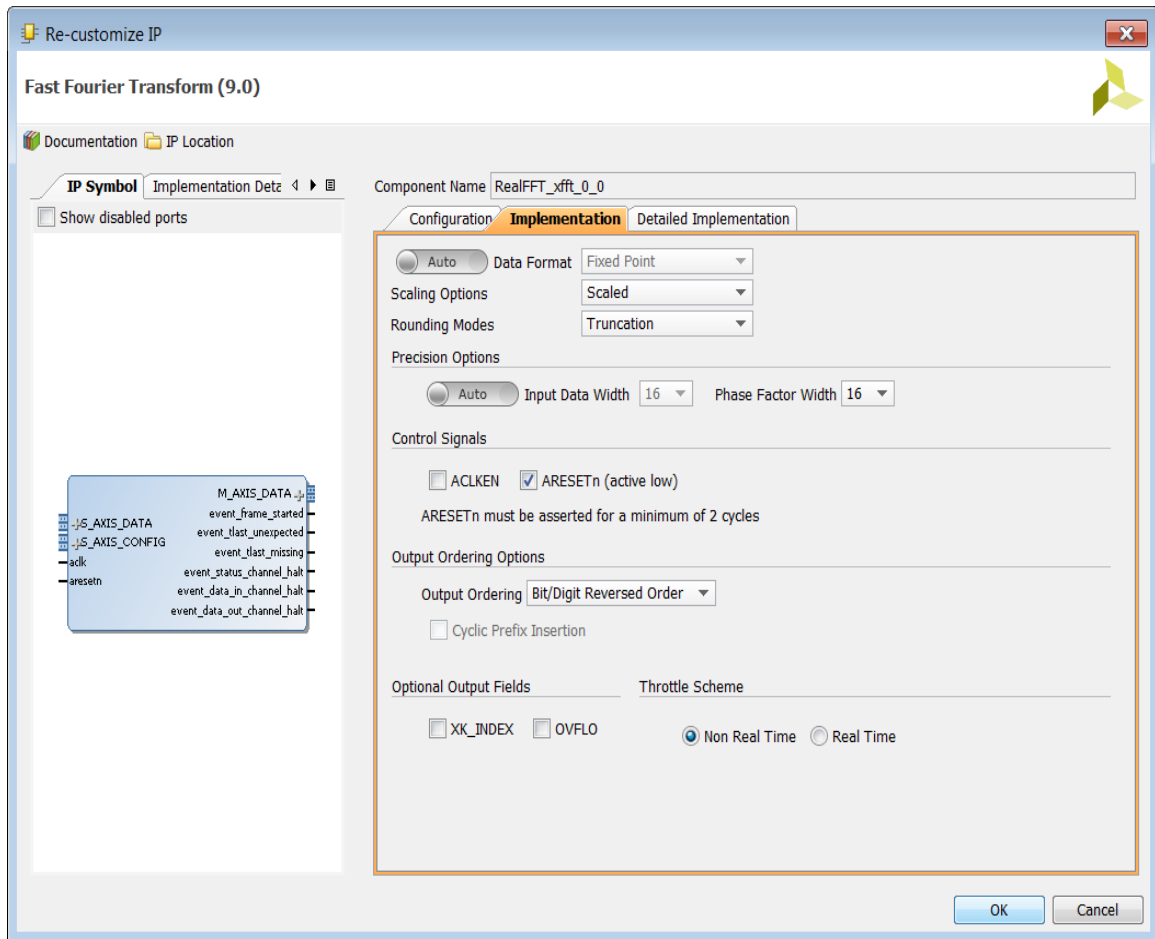

Figure 9-14: Xilinx FFT Implementation
5. Select the **Implementation** tab (Figure 9-14):